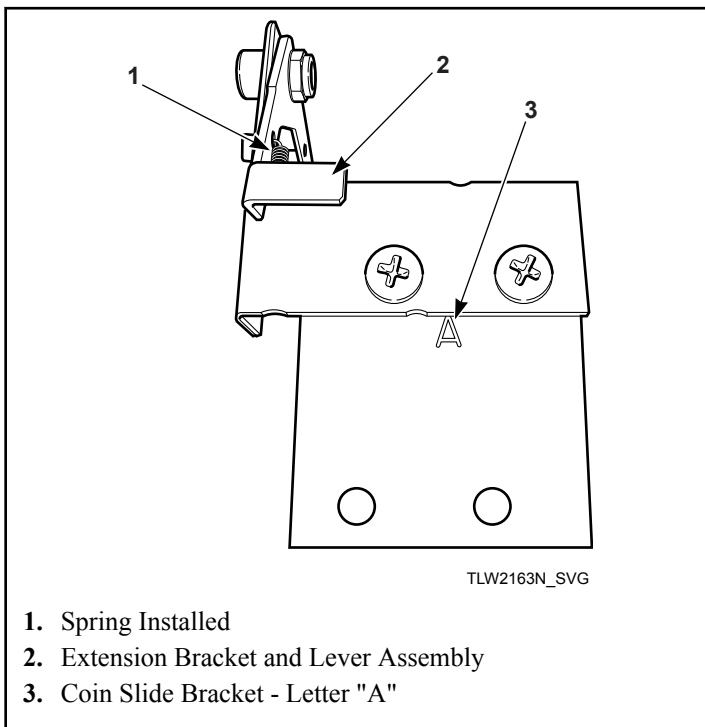

Figure 37
5. Install extension bracket and lever assembly onto coin slide bracket using two screws and locknuts. Refer to *Figure 37*.
IMPORTANT: Install coin slide bracket with side marked "A" facing up and toward extension bracket and lever assembly. Refer to *Figure 37*.